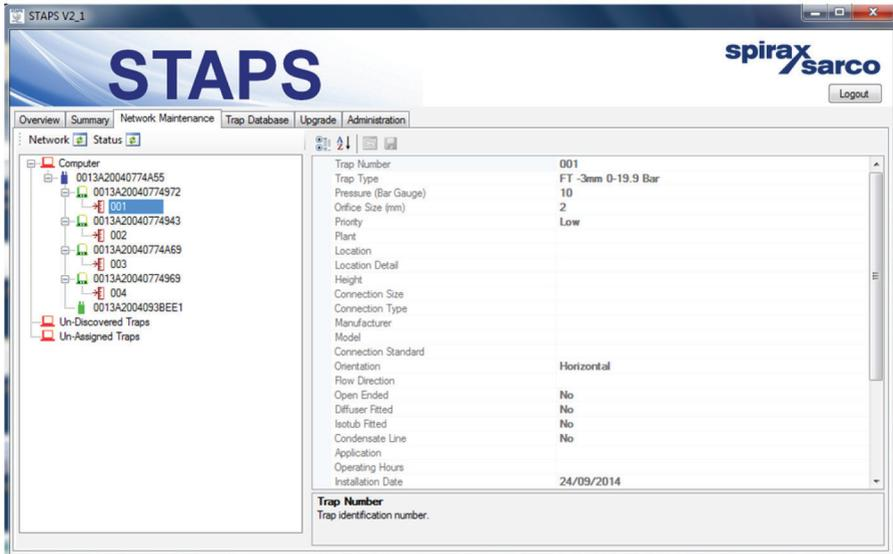

Fig. 8
**Transmit Interval:** 15 mins minimum, the period at which the Head transmits, set by right clicking on the Receiver icon in the network tree, and selecting Transmit Interval, reference Figures 8 and 9.
When you highlight a Trap in the network tree the device details Section will appear as depicted in Figure 8, it shows all the data that has been entered for the trap see Section 5.12.